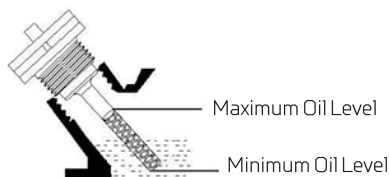

Figure 2 -Oil Fill Opening, Dipstick and Oil Level
2. Open the access panel. Remove the dipstick from the engine. (Figure 2)
3. Add oil slowly to bring level to full. (Figure 2).
5. Slowly add more oil and repeat step 4 until the oil mark reaches to the top of the dipstick (Figure 2). Do not over fill the crankcase. The generator is equipped with a low oil sensor and will not start if the amount of oil is insufficient.